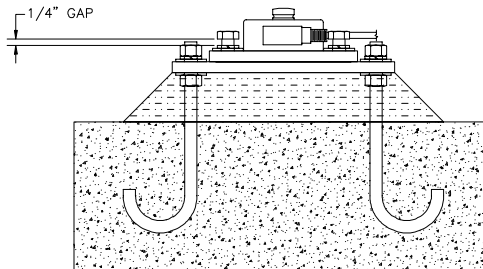

Figure 3-2: Leave 1/4-inch gap for positioning
- b. Install the bolts and nuts as required. **DO NOT fully tighten the bolts at this time. Leave a 1/4-inch gap between the nut and the washer to allow for positioning of the Load Discs.** (See Figure 3-2.)
- d. Tighten the bolts, leaving a 1/4-inch gap for positioning. (See Figure 3-2)